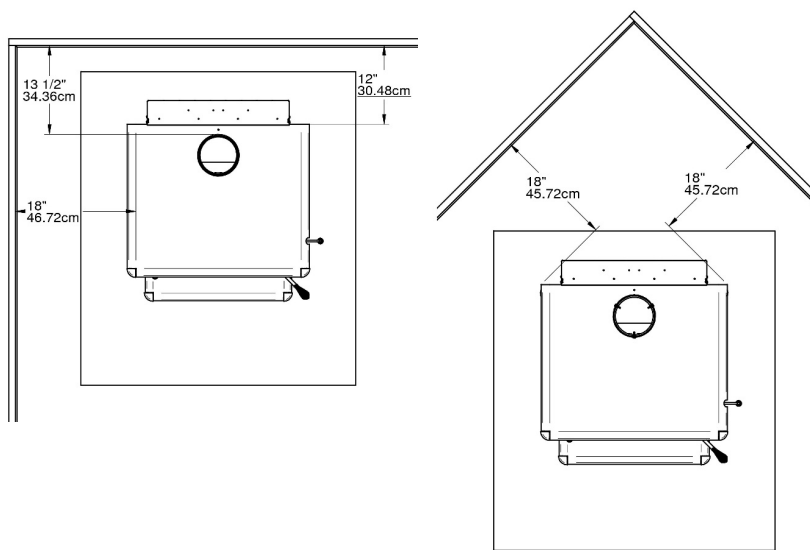

Figure 3
- For a 45° corner installation, or other corner installation, the minimum clearance between the cook stove and non-combustible material must be 18 inches (Figure 3).